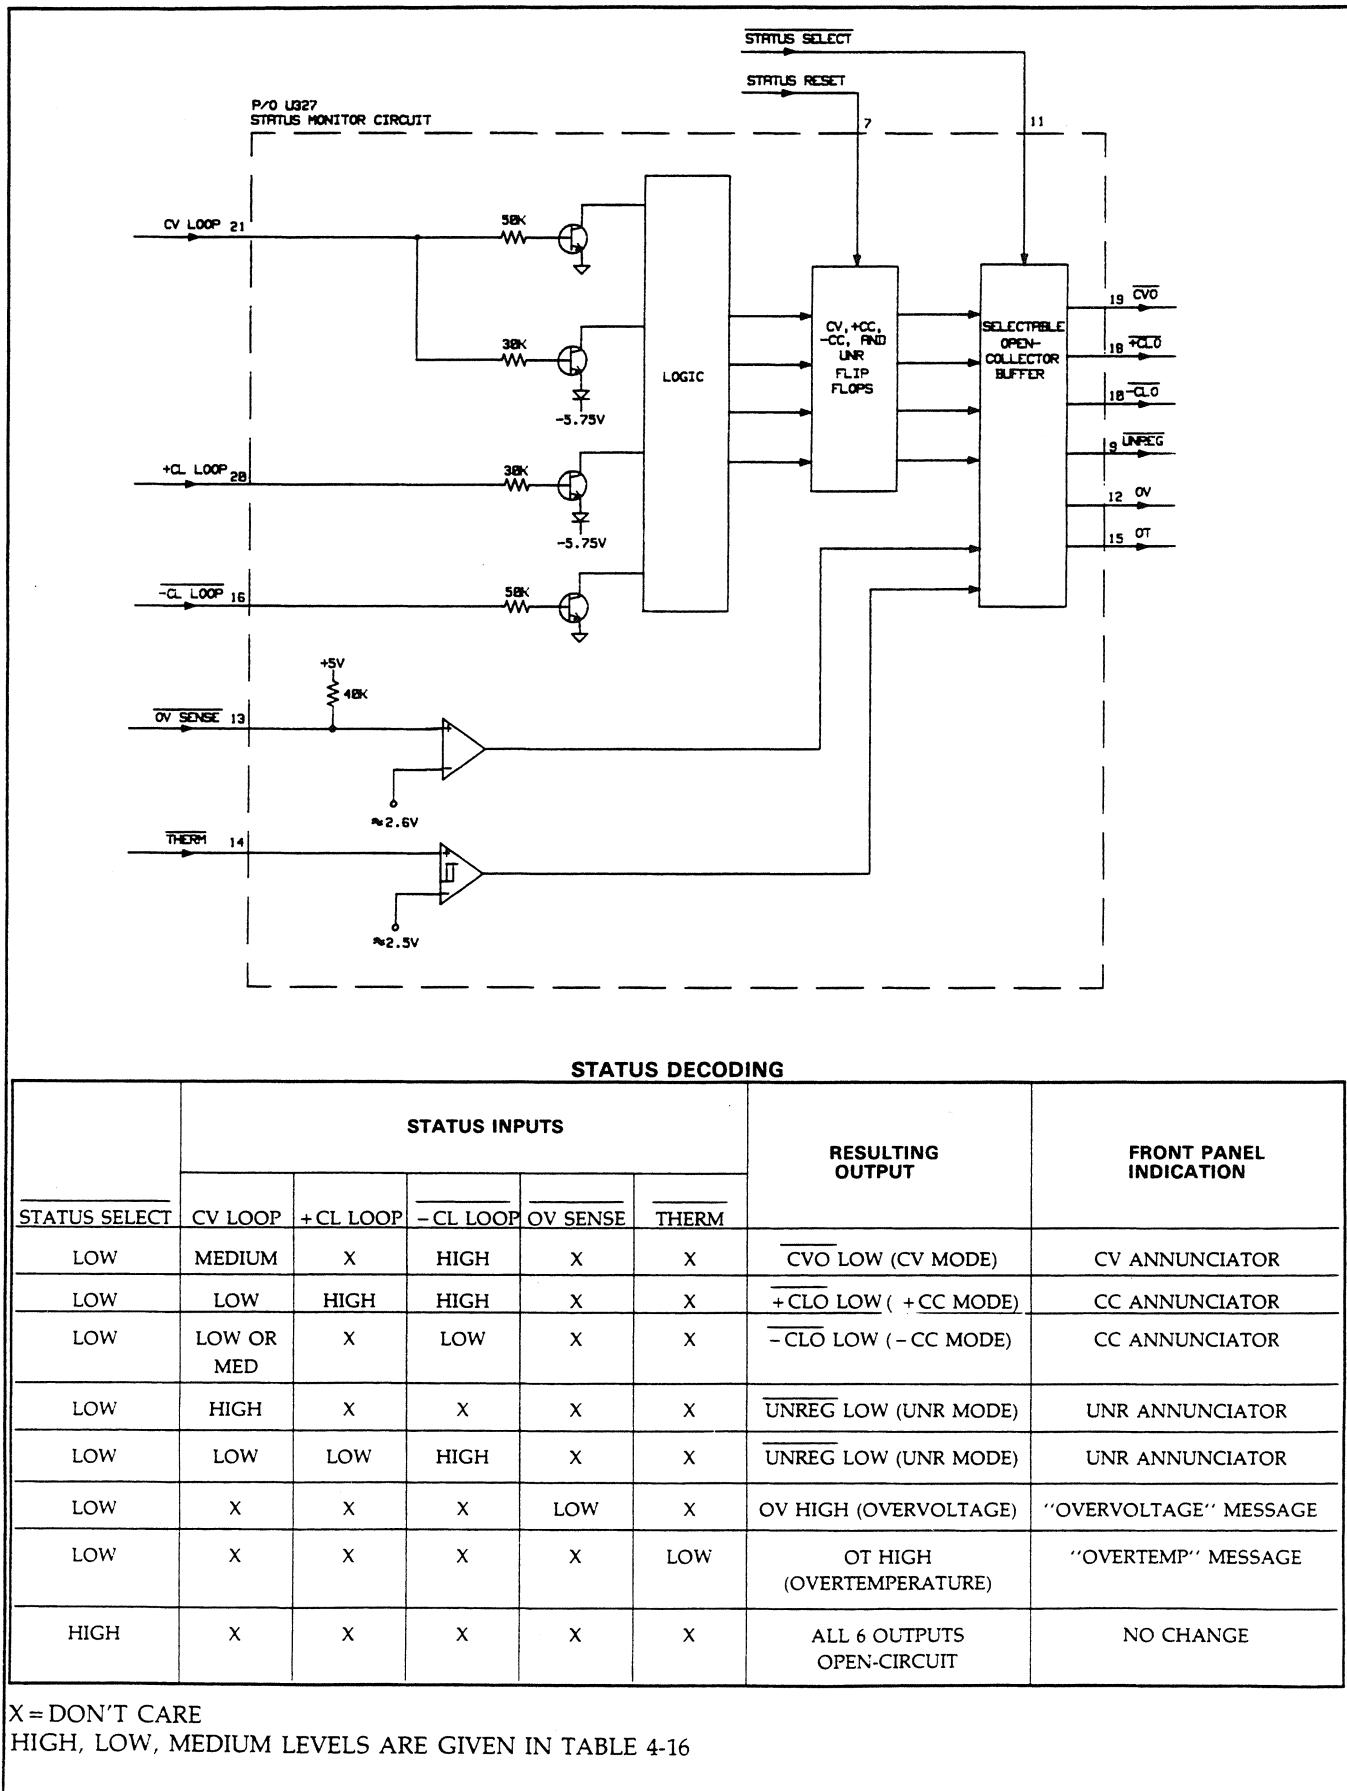
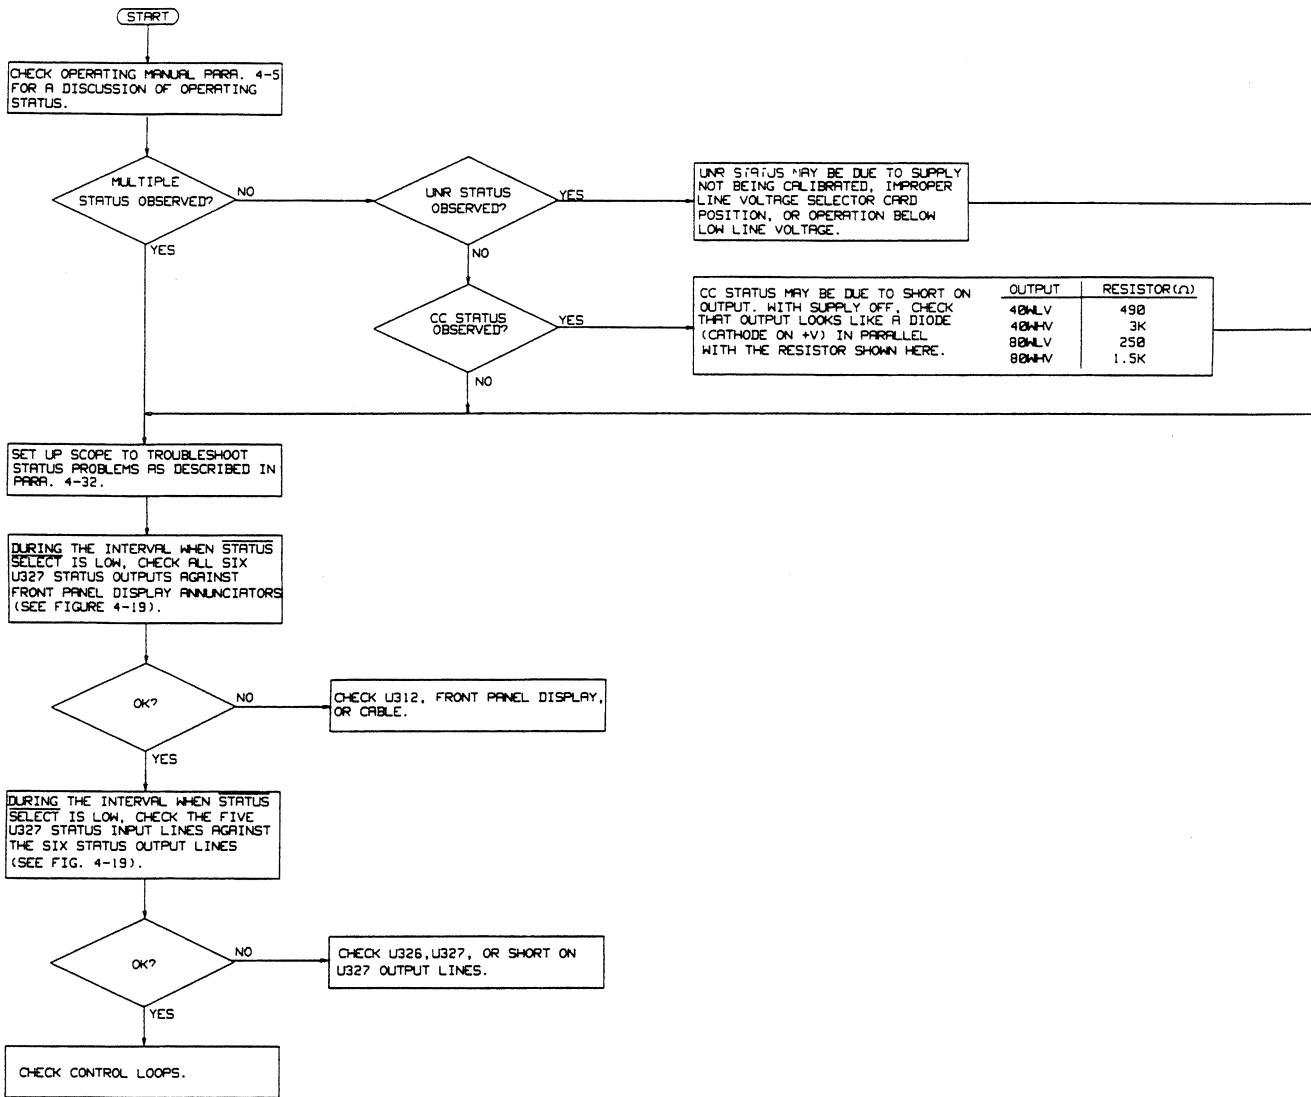

Figure 4-19. Signal Processor U327, Status Monitor Circuit, Simplified Schematic Diagram
Figure 4-20. Status Problems Troubleshooting
- CL LOOP (pin 16): This input signal, when Low, indicates that the supply's output is in negative current limit. Figure 4-19 shows how this signal is decoded causing -CLO (pin 10) to go Low.
+ CLO (pin 18): This open-collector output signal takes on the state of the internal +CC flip-flop when STATUS SELECT (pin 11) is Low. Figure 4-19 shows the conditions that cause +CLO to be Low. The + CC mode is indicated when +CLO is Low. +CLO is open-circuited when STATUS SELECT is High.
CVO (pin 19): This open collector output signal takes on the state of the internal CV flip-flop when STATUS SELECT is Low. Figure 4-19 shows the conditions that cause CVO to go Low. The CV mode is indicated when CVO is Low. CVO is open-circuited when STATUS SELECT is High.
+ CL LOOP (pin 20): This input signal, when High, indicates that the supply's output is in the positive current limit. Figure 4-19 shows how this signal is decoded causing +CLO (pin 18) to go Low.
CV LOOP (pin 21): When the supply's output is in the CV mode, the voltage level of this input signal should fall within the "medium" level (see Table 4-16). A High level at pin 21 indicates that the output is unregulated. Figure 4-19 shows how the CV LOOP signal is decoded causing CVO (pin 19) to go Low.
A status decoding table, which indicates the logic relationship between the five status input lines and the six status output lines, is included in Figure 4-19. To troubleshoot status problem, set up an oscilloscope as
described below and refer to Figure 4-19 and the troubleshooting procedures of Figure 4-20.
- c. The STATUS SELECT line should go low for about $30\mu\text{s}$. During this interval, each of the six TTL compatible status output lines from U327 can be checked against the information given in the table on Figure 4-19 by connecting Channel B of the oscilloscope to the IC pin in question.
- e. Follow the procedures outline in Figure 4-20.